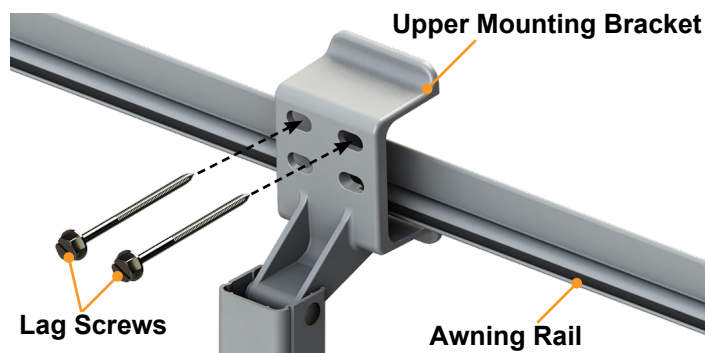

Fig.10
A. Sidewall - Center the upper mounting brackets on the support arm assembly centerline marked previously and arrange the upper mounting brackets to straddle the awning rail (Fig.10). Tighten the black locking knob (Fig.9C) on the mount/rafter arm upper channel (Fig.9A).
10. Once the upper bracket is situated, mark and pre-drill two $\frac{3}{16}$ " holes through the awning rail or unit. Apply a liberal amount of sealant over the holes and attach the upper mounting bracket using the $\frac{1}{4}$ " x 3" lag screws or equivalent (Fig.10).